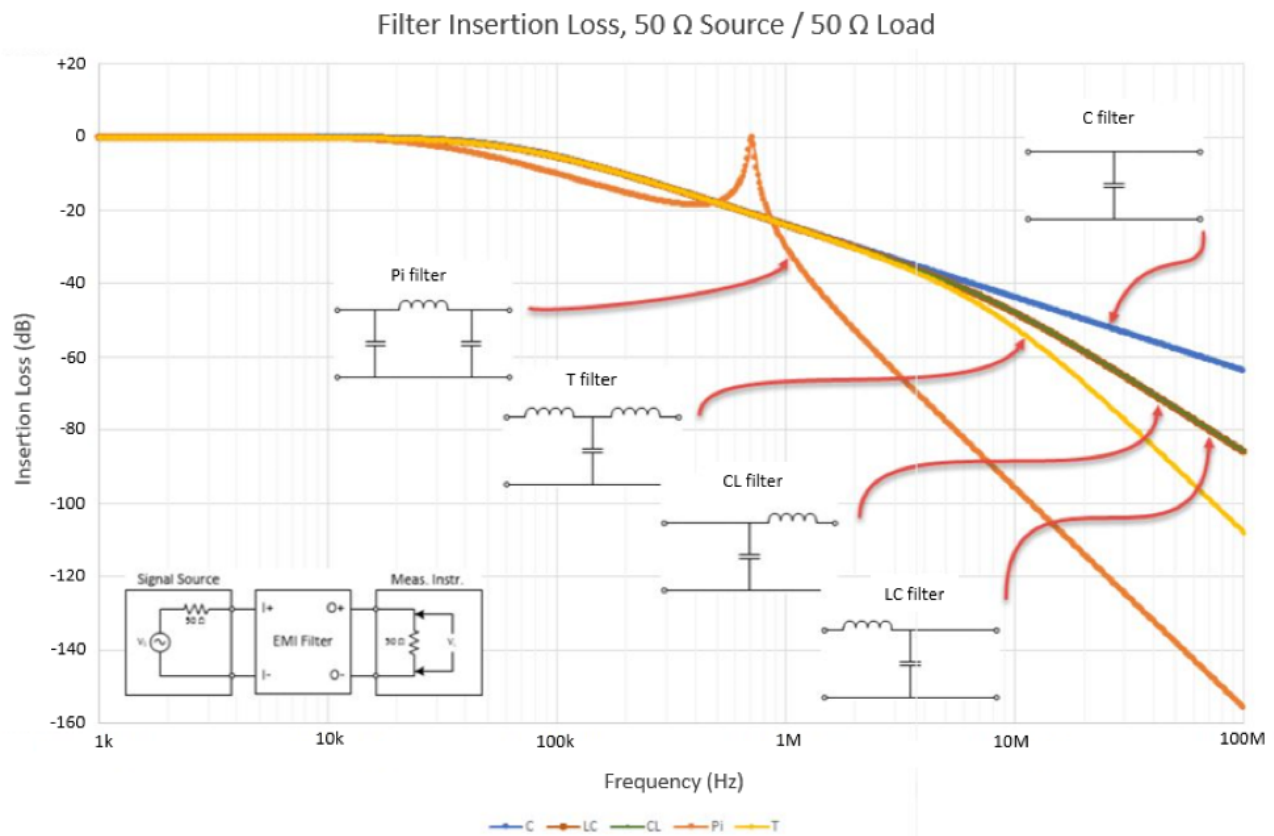

Figure 2: EMI filter performance with 50- $\Omega$  source and load impedances (Image Source: [Medium.com](https://medium.com))
A low-pass filter has low insertion loss at low frequencies and high insertion loss at high frequencies. The Bode plots in Figure 2 show the performance in a low-pass application of the four filter configurations discussed earlier. The figure shows the results in a circuit with a standard 50- $\Omega$  source and load impedance. These values are standard for radio-frequency (RF) test equipment.